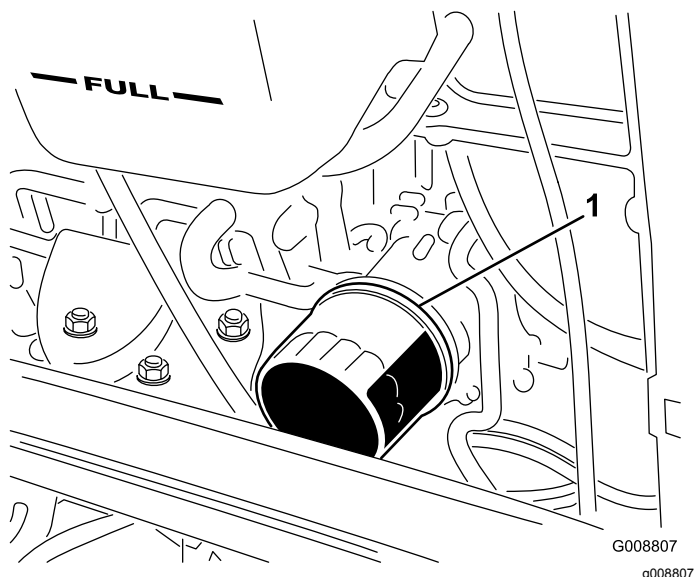

Figure 54
4. Remove the oil filter (Figure 54).